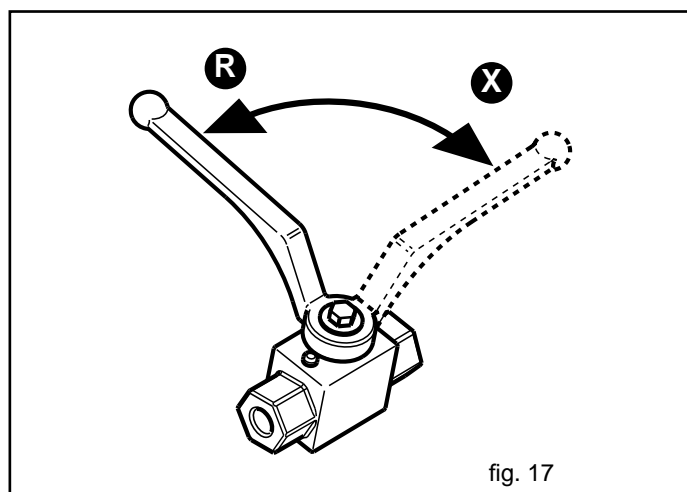

fig. 17
- 5) Close the hydraulic system by turning the handle as shown in detail (R, Fig. 17).
- 8) Open the hydraulic system by turning the handle as shown in detail (X, Fig. 17).